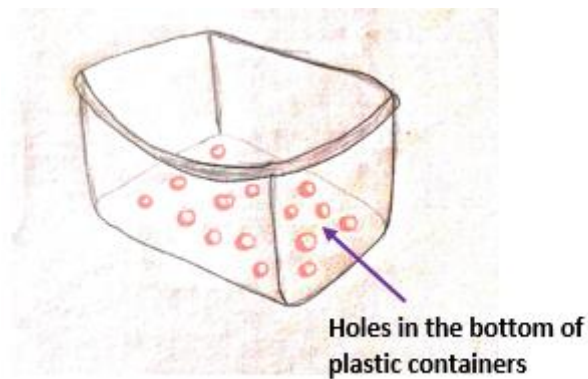

Figure 12: Plan of the holes drilled in the bottom of the plastic container
1.- In a container with the help of a drill we are going to make holes in the bottom of the containers (*Figure 12*) and also in the lids of the containers.